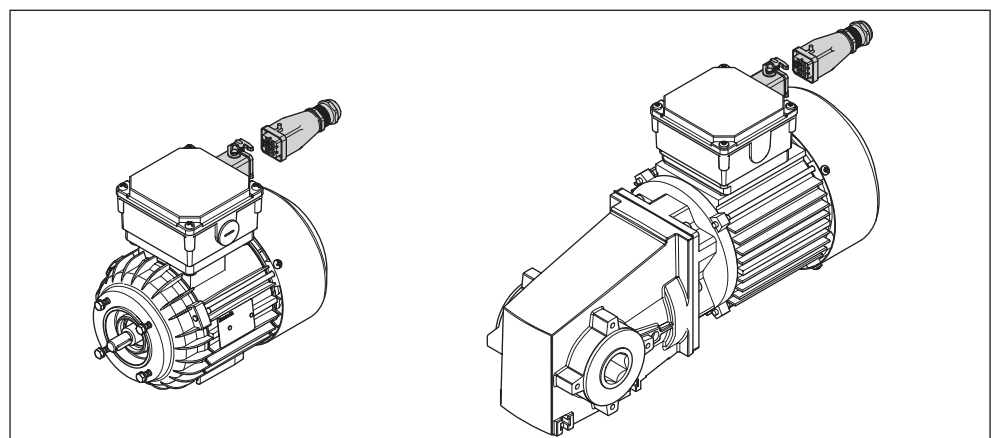

Fig. 9 Optional motor connection with plug (AT = S)
- Optional motor connection with plug (AT = S), see Fig. 9 "Optional motor connection with plug (AT = S)" on page 23. Observe the pre-fuse!